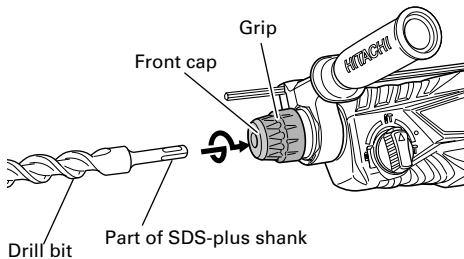

Fig. 1
### 4. Mounting the drill bit (Fig. 1)
- (1) Clean the shank portion of the drill bit.
- (2) Insert the drill bit in a twisting manner into the tool holder until it latches itself (Fig. 1).